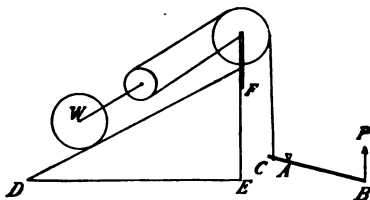

FIG. 36.—COMBINATION OF POWERS.
5. In the combination of lever, inclined plane, and pulley of Fig. 36, $AB=10$ feet, $AC=2$ feet, $DF=20$ feet, $EF=8$ feet, $P=100$ pounds: how large a weight can be lifted?